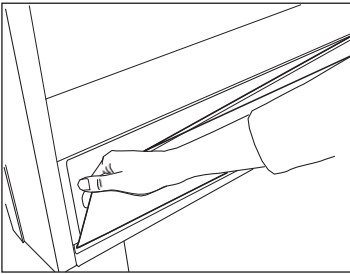

Figure 18. Pull away the filter.
1. Gently pull away the filter (see Figure 18).